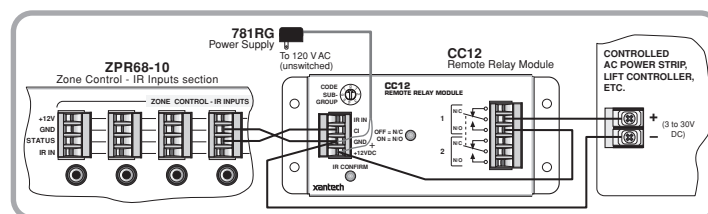

Fig. 6
- In **Fig. 6**, the STATUS (or CO output) of a ZPR68 (+12V) drives the CI (control input) of a CC12 when the zone is turned ON & OFF. (The common CO of the ZPR68 could also be used).